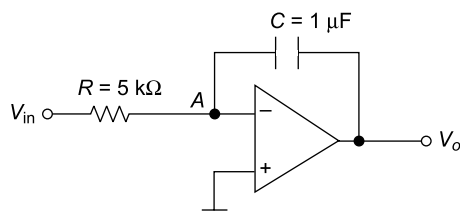

Fig. 5.91
28. Figure 5.91 shows an integrator circuit. Find out the output voltage when input voltage is $5 \sin 100 \pi t$ and show the output voltage waveform.